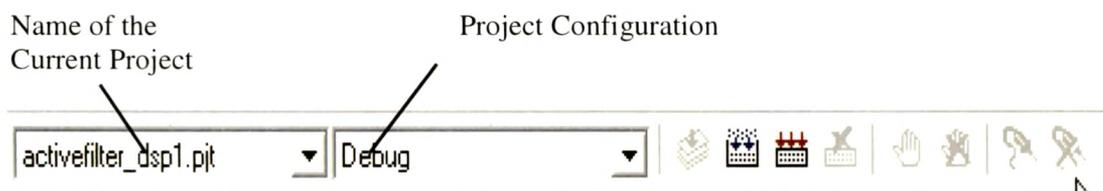

Fig 8.21 TOOLBAR SHOWING BUILD OPTION
- By default, the .out file is built into a debug directory located under your current project folder. To change this location, select a different one from the CCStudio toolbar.(Fig 8.21)